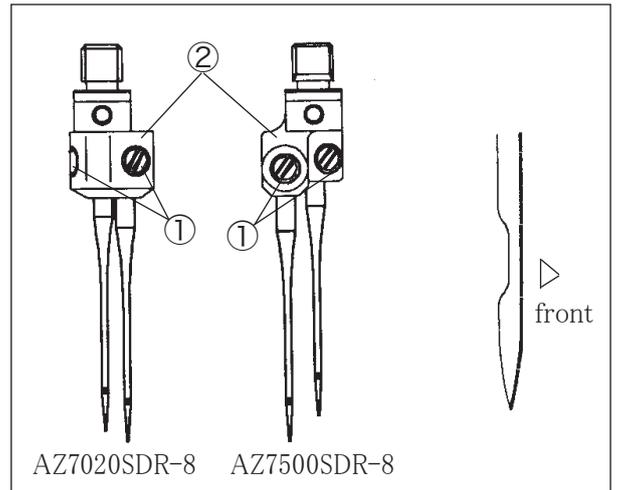
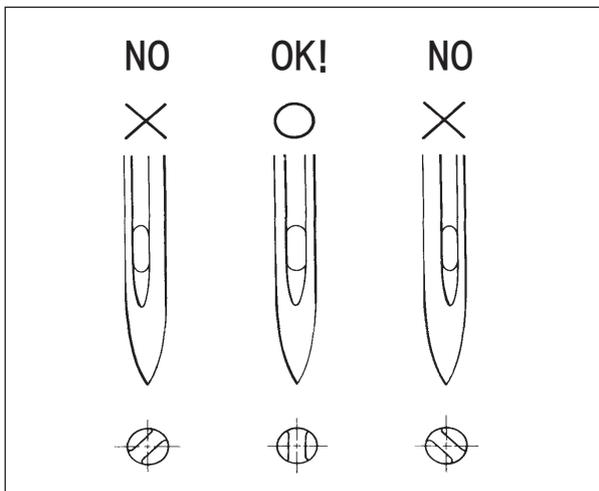

Fig. 5-1
Fig. 5-2
- (1) Loosen the screw ① with a minus screw driver. (Fig. 5-1)
- (2) Remove the old needle with a pair of tweezers.
- (3) Insert a new needle into the needle clamp ② as far as it goes with facing its scarf to the right back. (Fig. 5-2 and 5-3)
- (4) Tighten the screw ① with the minus screw driver.